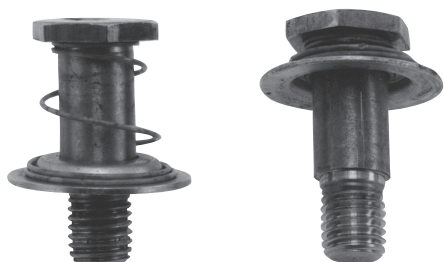

Figure 8
- Step 2 Compress conical spring against retainer ring by sliding detent spring towards head of pin. (All pins). (Figure 8)